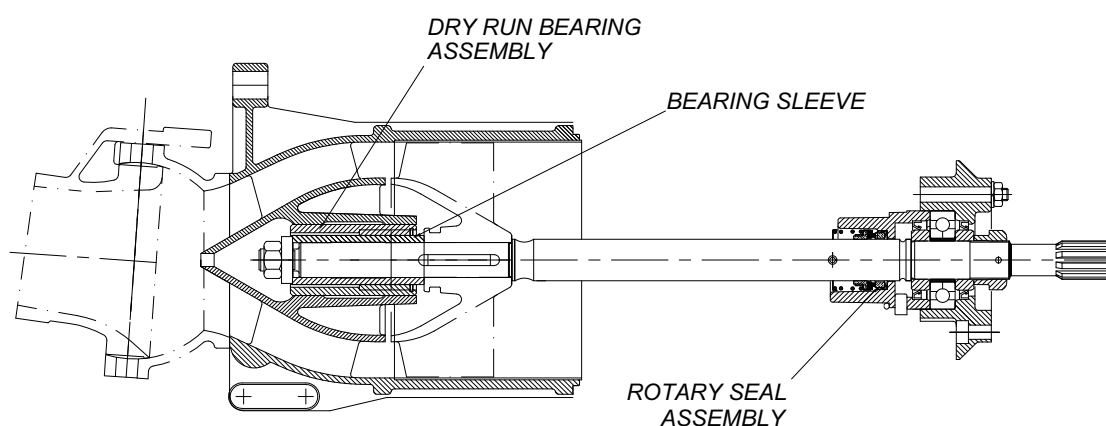

Figure 26: Dry Run Bearing Assembly
**Note:** As the dry run bearing runs on only one half of the bearing sleeve, refer to Figure 26: Dry Run Bearing Assembly. The bearing sleeve can be turned end for end when it shows signs of wear.